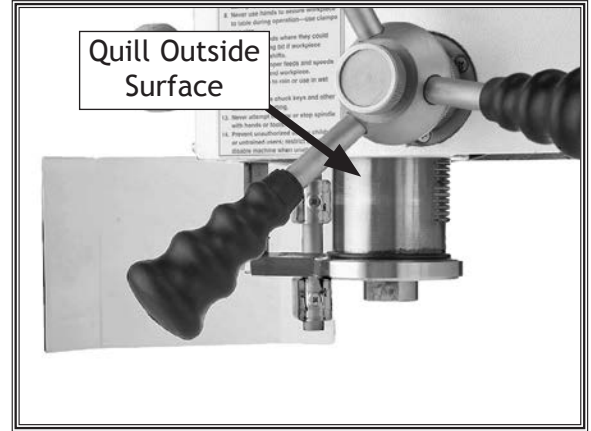

Figure 42. Outside surface of quill.
1. Without disturbing grease on quill rack, clean outside smooth surface of quill (see **Figure 42**) with mineral spirits and shop rags.